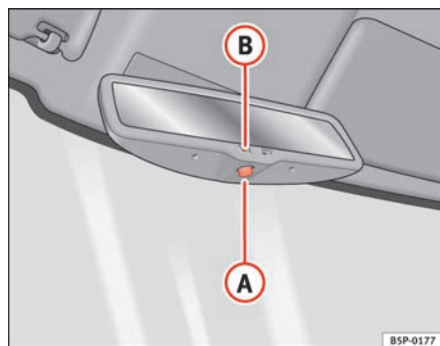

Fig. 85 Automatic anti-dazzle interior mirror.
- Press button **A** ⇒ fig. 85. Warning lamp **B** goes out:
- Press button **A** ⇒ fig. 85. Warning lamp is lit.